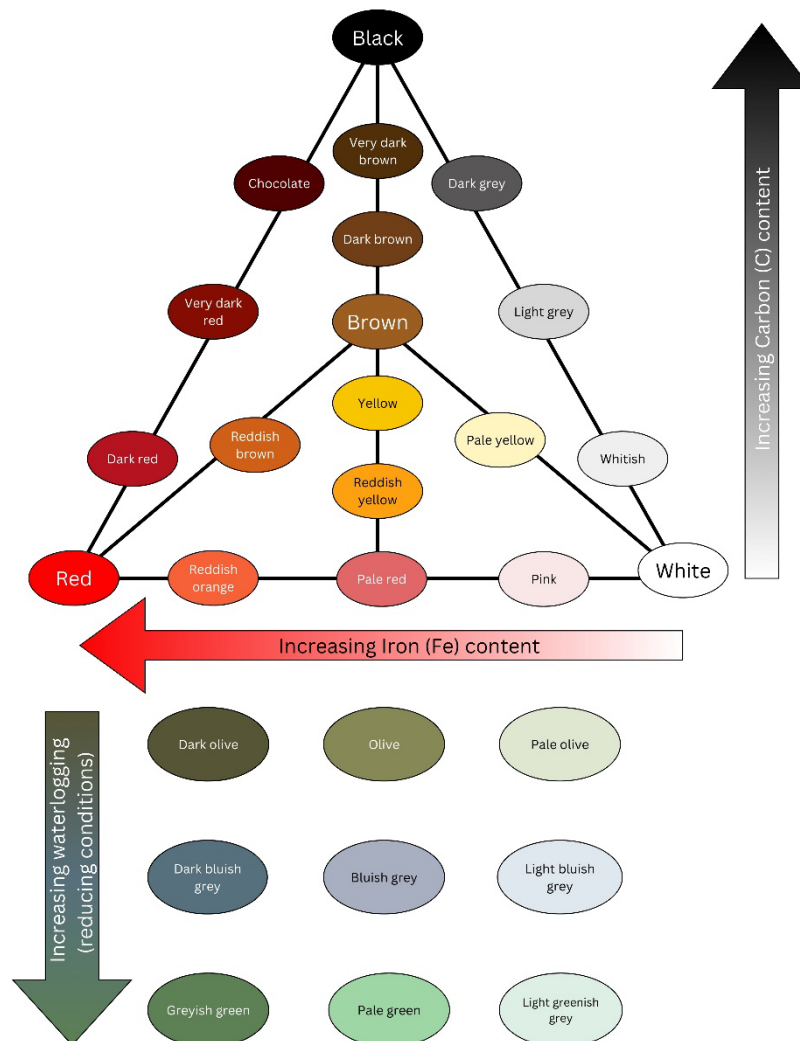

Figure 4 Relationship between soil colour and influencing factors/conditions. Source: Adapted from Better Soils, Agricultural Bureau of South Australia
If a Munsell colour chart is not available, use simple colour names as shown in Figure 4.
- Munsell soil colour chart or Figure 4 'Relationship between soil colour and influencing conditions'